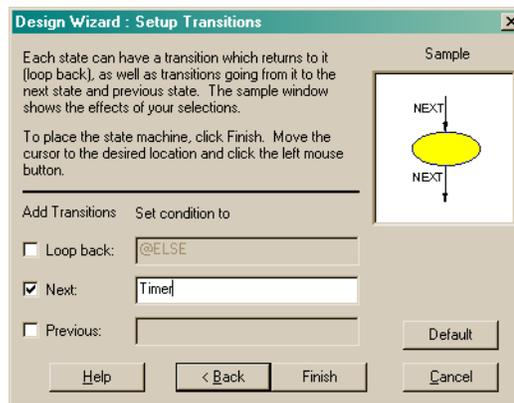

Figure 4-19: Setup Transitions Window
- Next, you will see the **Setup Transitions** dialog box. Type “TIMER” in the Next field (shown in Figure 4-19).